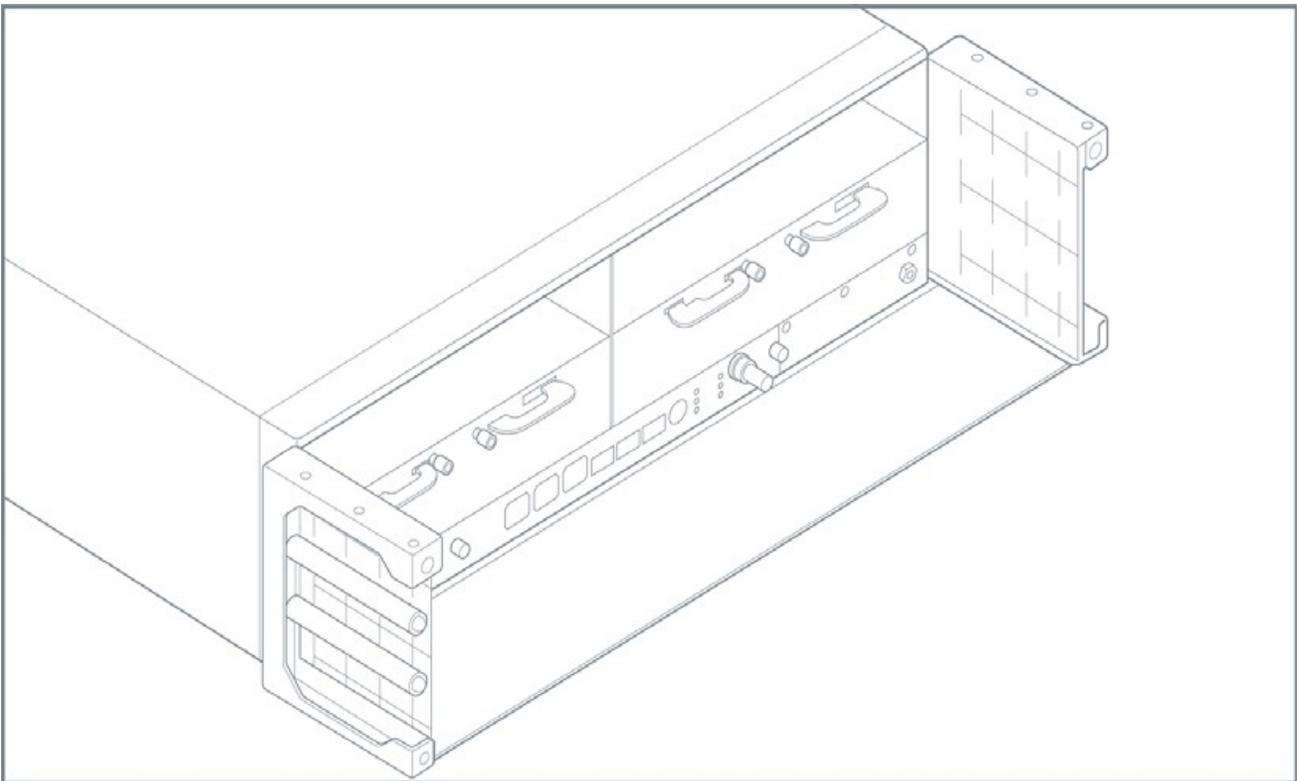

Figure 3-7: Cable Management Sides and Bottom Plate
2. To install cable management on the GigaVUE-HC3 node, first attach the sides to the left and right of the chassis. Attach two screws on each side of the chassis as shown in Figure 3-7.
3. Slide the bottom plate onto the two sides as shown in Figure 3-7 .
6. Tighten the two screws at the front on the cable management assembly as shown in Figure 3-7 .